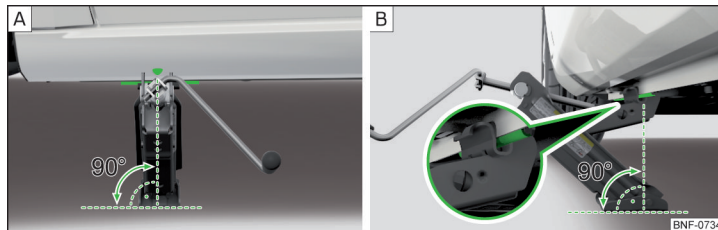

Fig. 155 Attach lifting jack
- Position the base plate of the jack with its full area resting on level ground and ensure that the jack will fit in the jacking point when raised » Fig. 155 - [A].
- Use the crank to raise the jack until its pawl covers the jacking point» Fig. 155- [B].